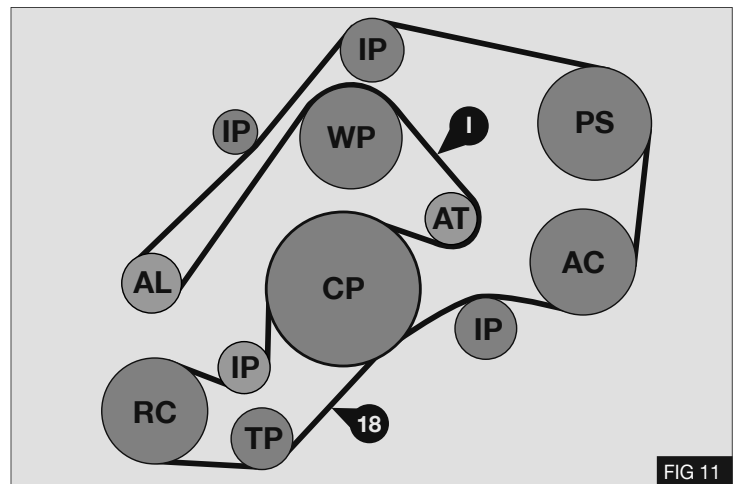

FIG 11
1. Re-fit the original drive belt (1) as shown in Fig 11
2. Fit supplied poly groove drive belt (18) - Fig 11
3. Tension the drive belt (18) using bolt (11) to the correct tension detailed in the belt tension table.
4. When correct tension has been achieved, tighten bolt (13)
5. Torque bolt (13) to 25Nm / 18lbf using a calibrated torque wrench.